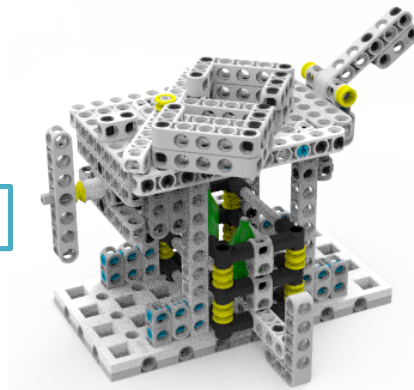

Figure 3-3-3 Finished Status 2
3.3.3 By rotating the handle, the information will fall into information collecting box, the Finished Status 2 (as shown in Figure 3-3-3, 20 points per *information*).